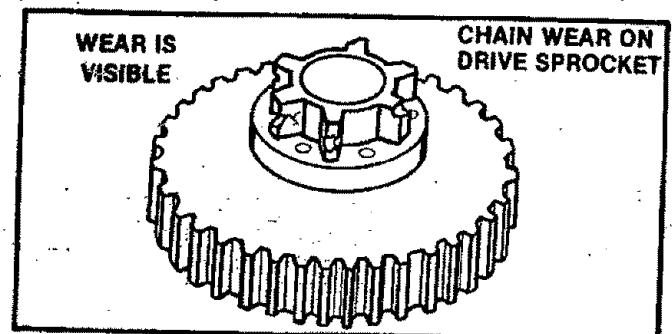

Figure 39
- Inspect the sprocket regularly for wear. A worn sprocket will cause the chain to run erratically and will shorten the life of the bar and chain. Figure 39.
- If sprocket is worn (Figure 39), have the sprocket replaced by your Sears Service Center. User Sprocket replacement can cause the double insulation system to become ineffective.